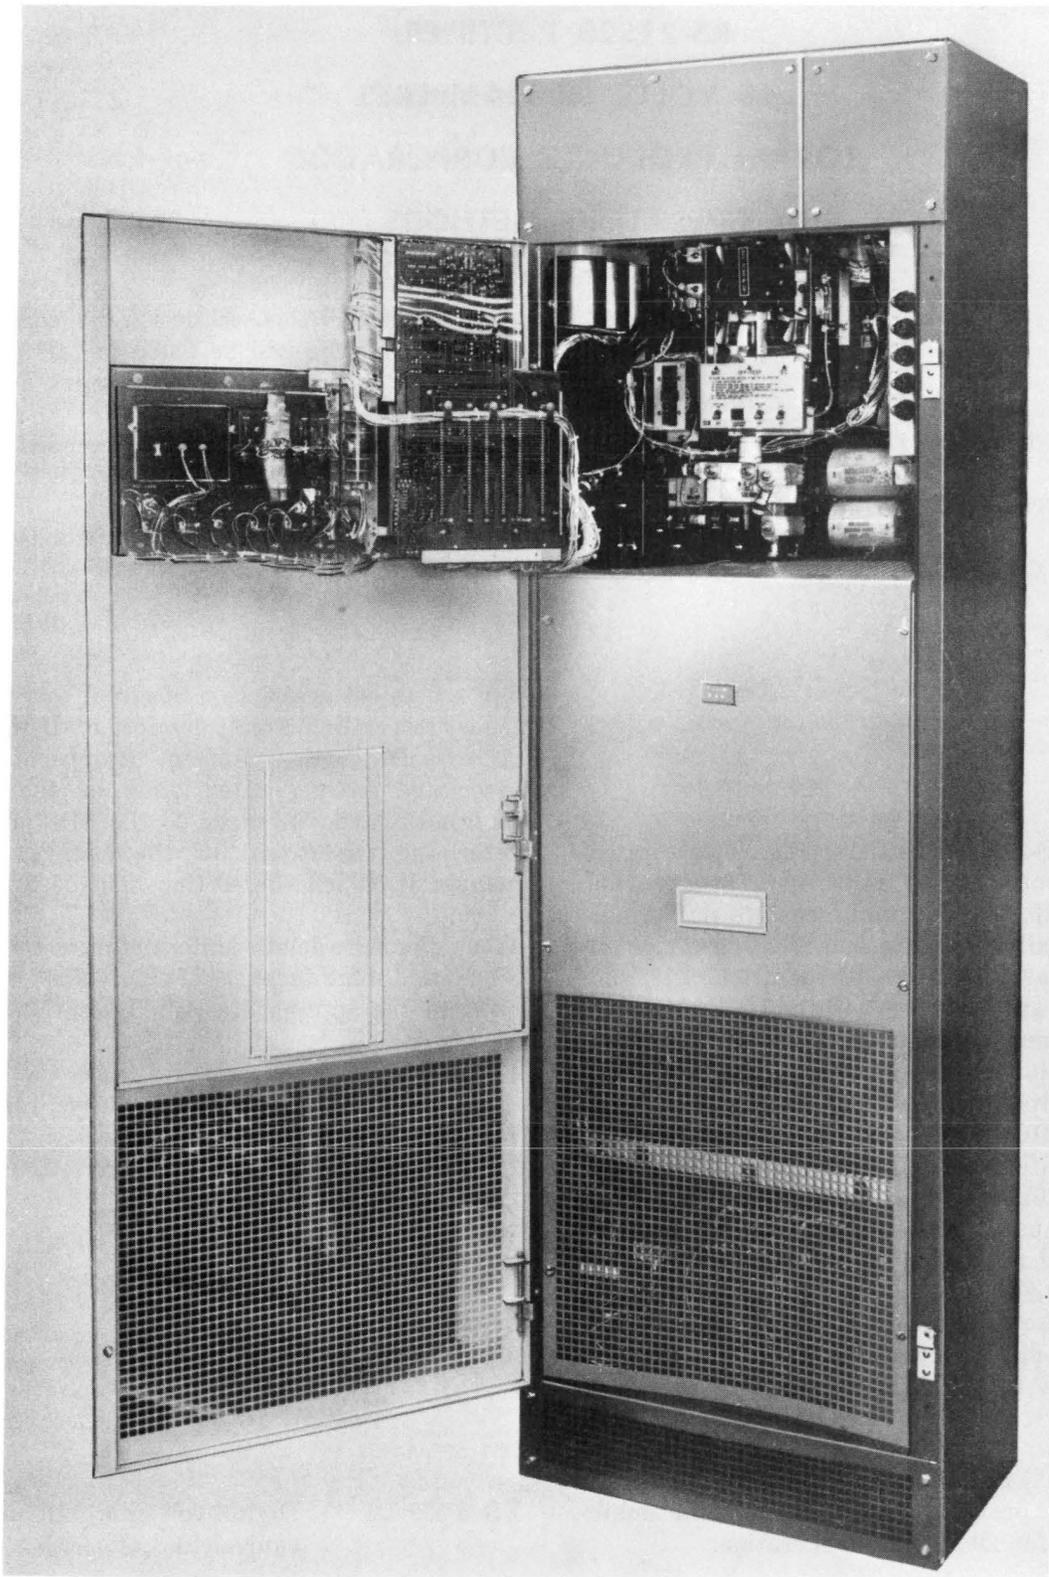

Fig. 1—KS-21520 L11 and L12 Rectifier—Lorain Products Corporation
1.01 The KS-21520 rectifiers, Fig. 1, are rated at 48 volts at 400 amperes. They provide an isolated, filtered, constant negative dc voltage for automatically charging and floating 23 or 24 cells of lead acid battery. In addition, L11 and L12 rectifiers are equipped with end cell charging capacity allowing 25 or 27 cells to be floated or charged at voltages up to 2.3 volts per cell. The L11 and L12 rectifiers are primarily intended for use in the 301C, 302A, and 302B while the L21 and L22 rectifiers are intended for use in the 303A, 326A, 326B, and 111A power plants. However, they may be used whenever the voltage, current capacities, and regulation characteristics meet the requirements with which they will be associated. These rectifiers are designed for continuous operation, and during normal operation are energized and connected to the load. The input power is 3-phase, 3-wire, 60±3 Hz ac within the limits of 184 to 254 volts for List 11 and List 21 or 424 to 508 volts for L12 and L22. The L11 and L21 rectifiers are provided with taps on the main transformers for 208/240 volt operation.